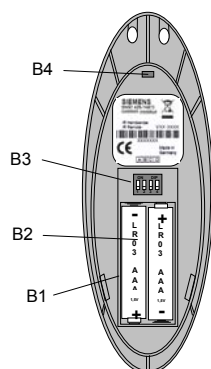

Figure 2
The S 425/72 IR remote offers remote control of 16 different room functions that are operated via 4 pairs of buttons and 4 pre-selection buttons (Figure 2). A separate central pair of buttons can be used to operate the function associated with the buttons A-1.
- Remove the Battery compartment lid on the rear side (Figure 2)
To replace the batteries the battery compartment lid on the rear side of the device has to be removed (Figure 2). Press the latch at the top of the lid (B4 in figure 2) a bit down and lift the battery compartment lid slightly up. Then the lid can be pulled off towards the top. Under the battery compartment lid there are two labeling tags for labeling the functions associated with the buttons of the IR remote.